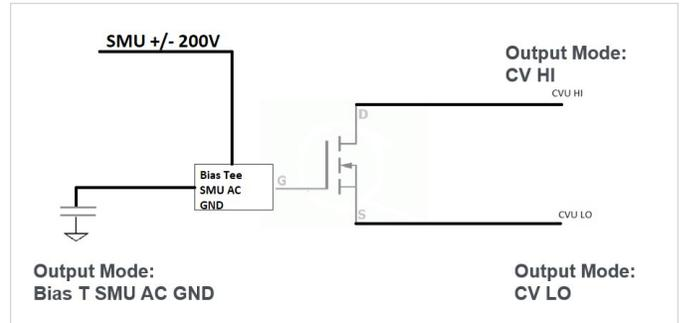

Figure 7: Bias Tee SMU AC GND Channel Configuration
- BiasT SMU AC Gnd:** This is the bias tee mode with an AC ground configuration. This combines the DC bias from a 4200-SMU or 4210-SMU with local AC ground through the 4200A-CVIV bias tee circuit. A typical application for this configuration would be when performing C-V measurements on the drain to the source of a MOSFET while applying a DC bias to the gate, just like shown in **Figure 7**. AC signals at the gate would have a ground return path.